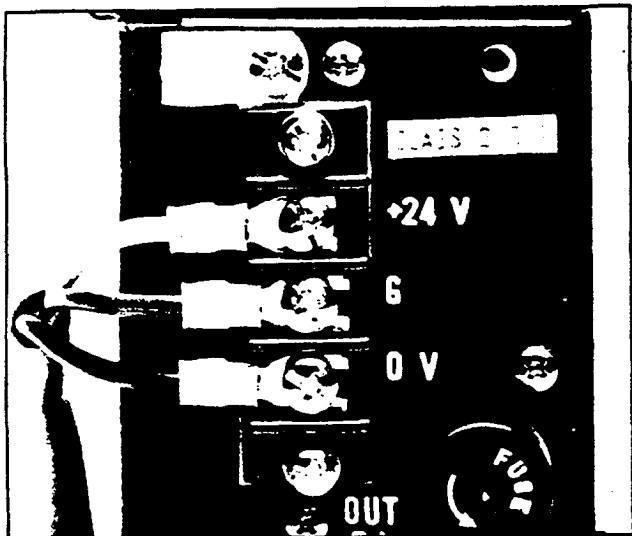

FIGURE 3—CABLE CONNECTION
02.03 Refer to Figure 3, and connect the power supply cable in the following order: